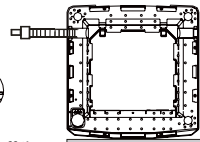

Figure 4
4. Put your hand into the washing machine and undraw the drain hose clamp. Extend the drain hose in other side and fix it with the clamp. (as indicated in Figure 4)